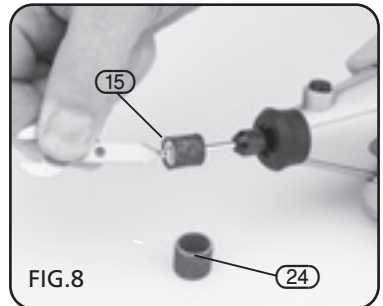

FIG.8
8.6 FITTING THE SANDING DRUMS - FIG. 8